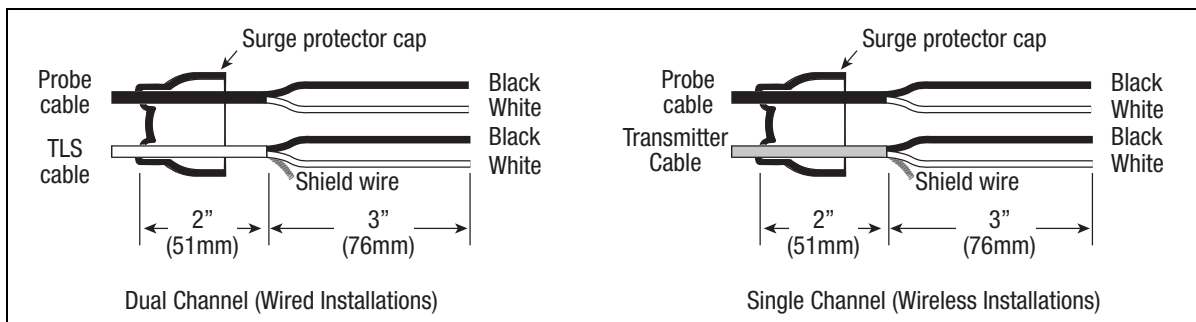

Figure 4. Splice Length Dimensions
1. Cut the soft vinyl epoxy enclosure end cap entrance holes of the surge protector to accommodate each cable diameter. Keep the hole sizes to a minimum. Insert about 5 inches (127mm) of each cable through the openings [Figure 4]. Remove 3 inches (76mm) of the outer jacket from each cable. Trim the insulation from the conductors.